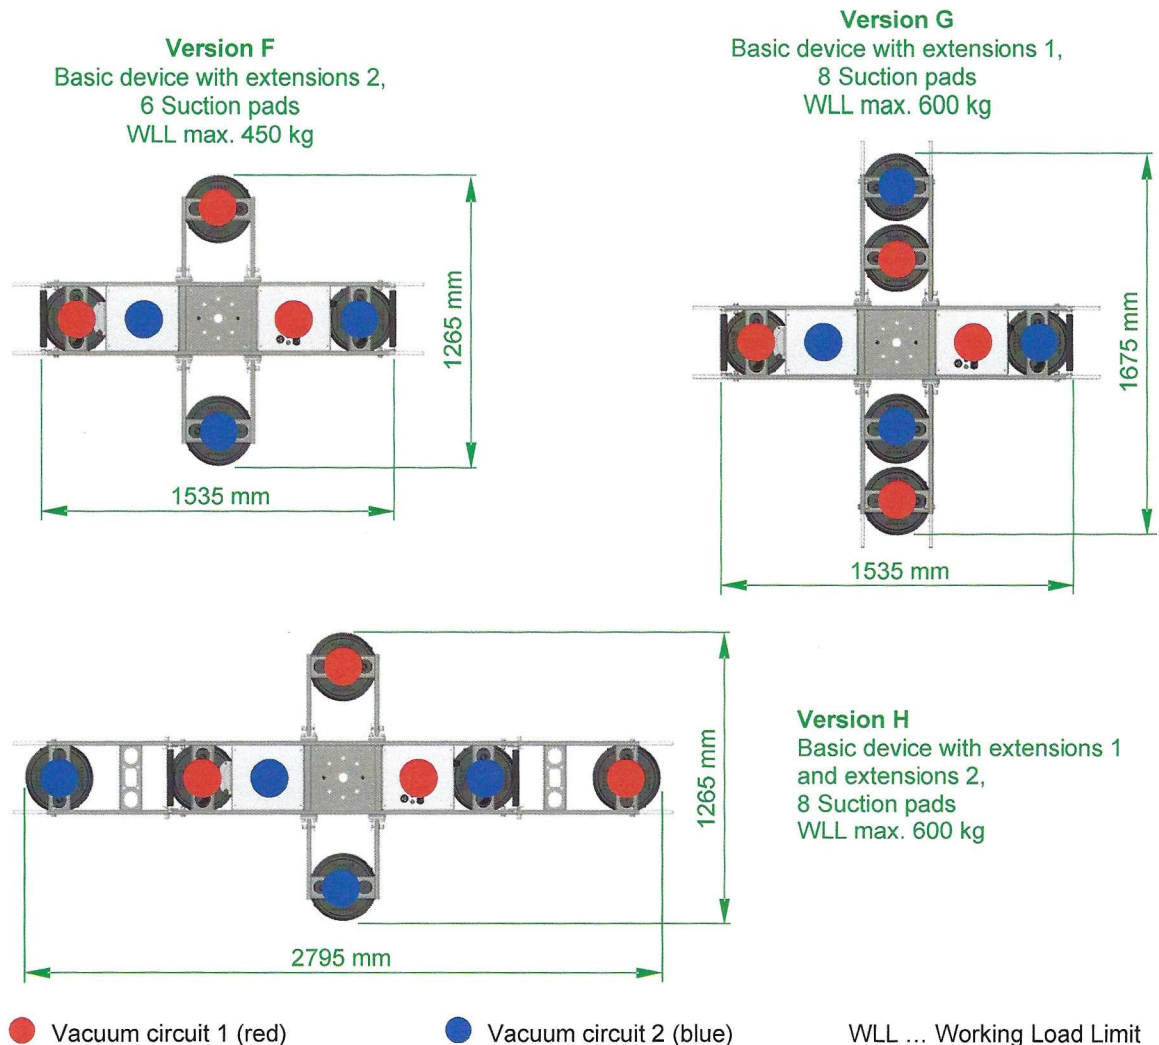

Fig. 3: Possible configuration of the OKTOPUS® and arrangement of the suction pads
Through the mounting of extensions (s. Point 3.3) the OKTOPUS® GLASS-Jack GL-LN 600 can be adapted to the most diverse element dimensions. All possible options can be seen in fig. 3. In order to make the presentation clearer, the crane arm is not shown.
- Please contact the Wirth service team if an arrangement of the suction pads differing from figure 3 is required.
In order to realize the OKTOPUS® configuration version D and G (see fig. 3) it's necessary to mount a second suction pad onto each of the extensions 1. Therefore proceed as follows: